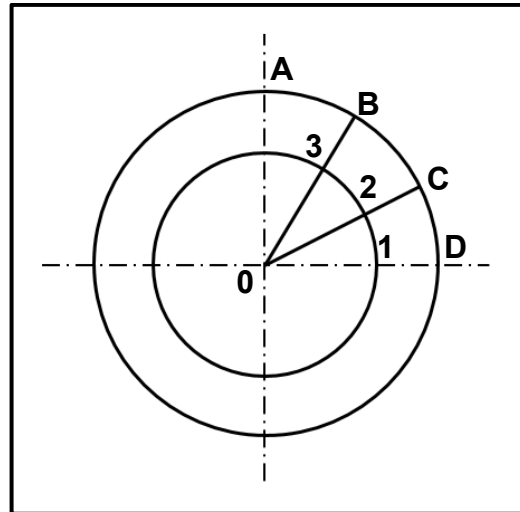

FIGURE 11.1
- 11.1 A truncated cone is shown in FIGURE 11.1 below. The vertical height of the truncated cone is 500 mm. The base diameter is 400 mm and the top diameter is 300 mm.